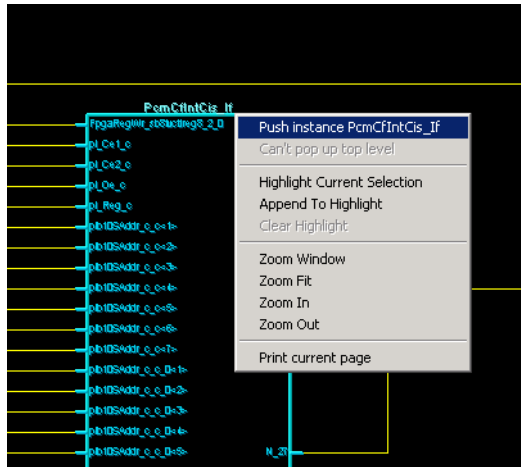

Figure 2-2. Pushing One Level Deeper into the Design
- From the Edit menu, click **Push**. Or, from the right-click menu select Push instance <name>, as shown in Figure 2-2.